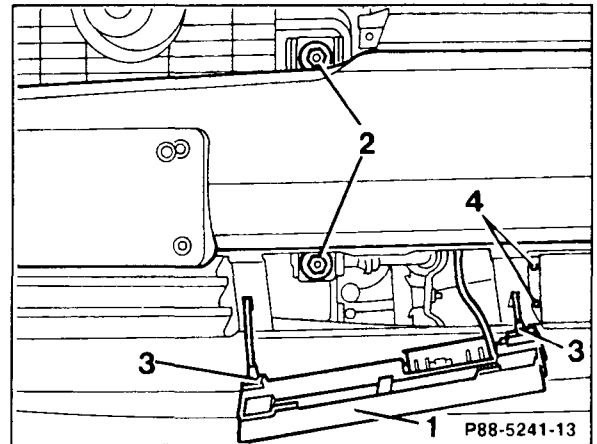

Figure 5
16. Remove retaining straps from mounting bolt access flaps (1, Figure 5) and press into AMG flaps.
19. To adjust driving lamps, open access flaps and adjust by turning Phillips head adjusting screws, Figure 5).